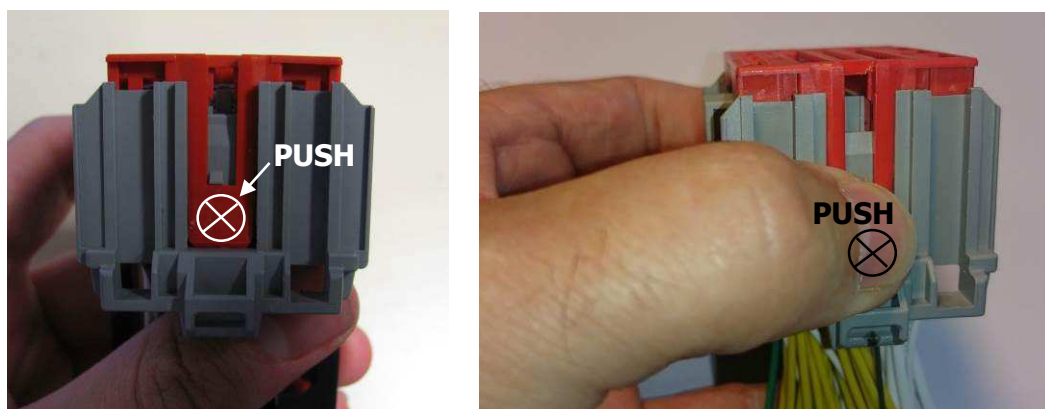
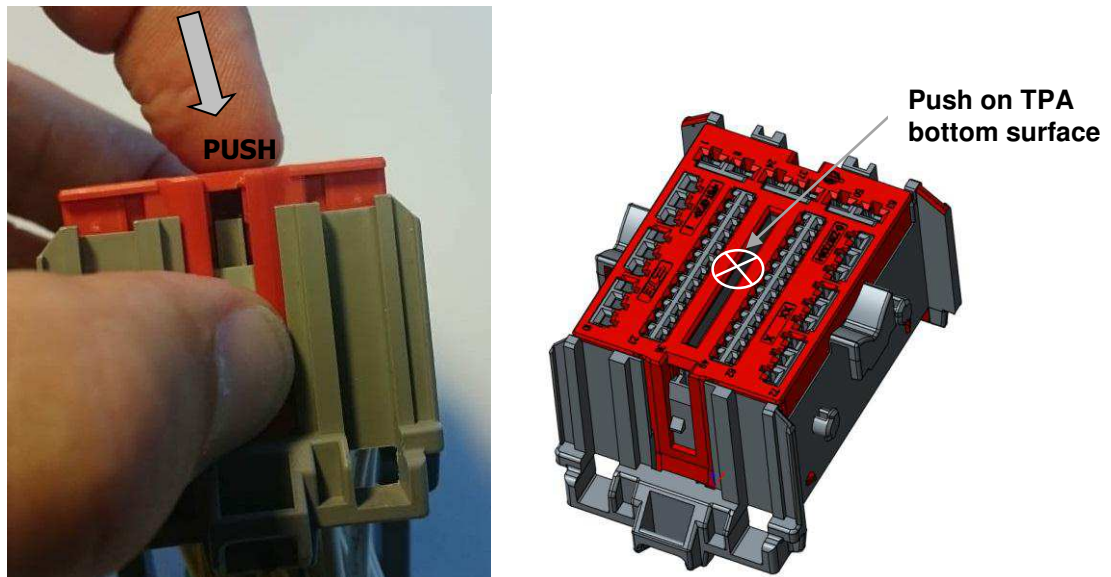
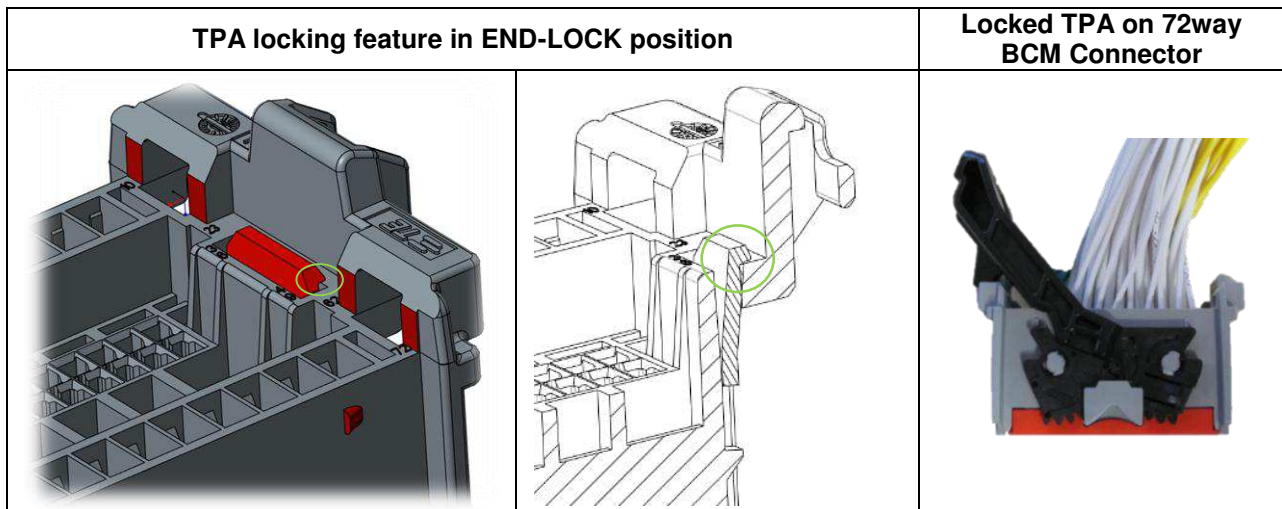

Figure 2: Unlock TPA latch in order to release TPA for insertion
Figure 3: Unlocking TPA release locking feature with thumb and ring finger, then push the TPA bottom surface to the end-lock position
Figure 4: TPA in end-lock position with terminals installed
After terminal insertion, push both TPA latches to each other as shown in Figure 2 (step 1). If both locking features are unlocked, you can push the TPA into the End-lock position, as shown in Figure 3 (step 2). If the TPA is complete installed, both locking latches should be locked as shown in Figure 4 (step 3).
*Make sure both locking feature are locked as shown in Figure 4*